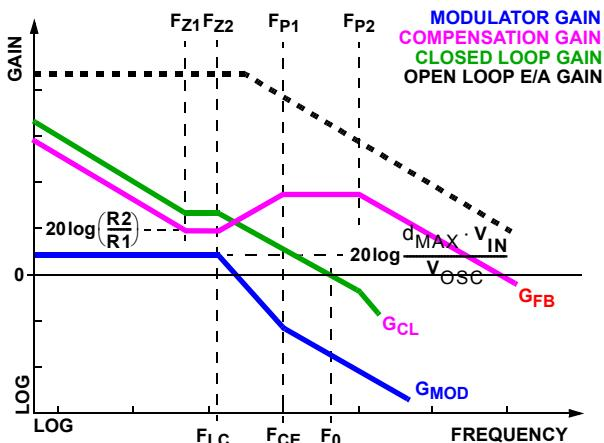

FIGURE 10. ASYMPOTIC BODE PLOT OF CONVERTER GAIN
Figure 10 shows an asymptotic plot of the DC/DC converter's gain vs frequency. The actual Modulator Gain has a high gain peak dependent on the quality factor (Q) of the output filter, which is not shown. Using the above guidelines should yield a compensation gain similar to the curve plotted. The open loop error amplifier gain bounds the compensation gain. Check the compensation gain at F_{P2} against the capabilities of the error amplifier. The closed loop gain, G_{CL} , is constructed on the log-log graph of Figure 10 by adding the modulator gain, G_{MOD} (in dB), to the feedback compensation gain, G_{FB} (in dB). This is equivalent to multiplying the modulator transfer function and the compensation transfer function and then plotting the resulting gain.